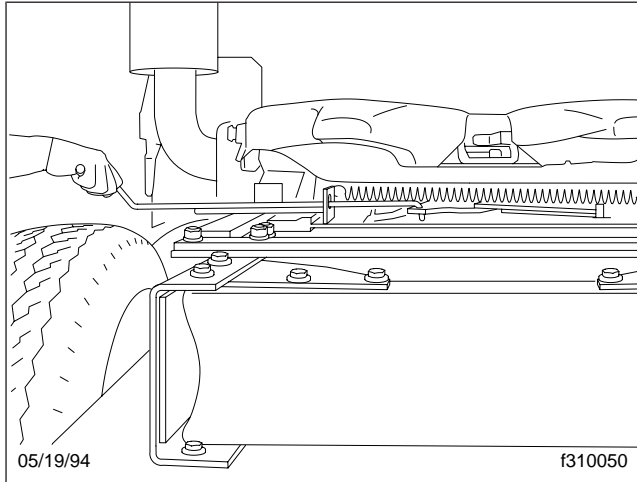

Fig. 10.20, Fontaine 5000 Series Sliding Fifth Wheel Manual Release
- 2.2 For manual release models, lift the slide locking handle to disengage it from the guide plate. Then, pull out the handle (Fig. 10.20) until it is in the unlocked position and can be positioned against the guide plate to hold it out. The slide locking handle will stay in the unlocked position until it is manually disengaged from the guide plate.